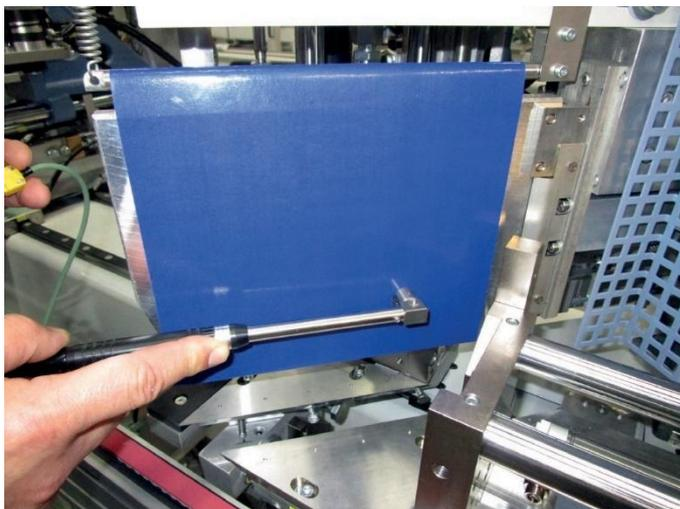

Figure13: Temperature measurement on the welding mirror using a contact sensor
- Regularly measure the temperature directly on the mirror in the welding area with a contact sensor (see Figure 13). Infrared thermometers are not permitted because an air cushion forms between the PTFE film and the mirror, which distorts the temperature displayed.